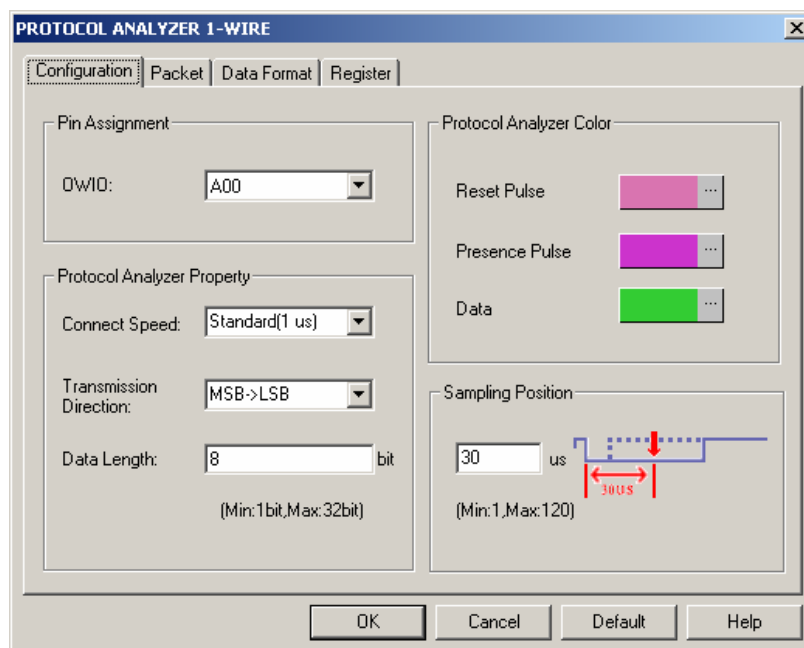

Fig4-101 - Protocol Analyzer 1-WIRE Configuration dialog box
A. Write 0: If the sampling is low, 0 is generated as in fig4-101: